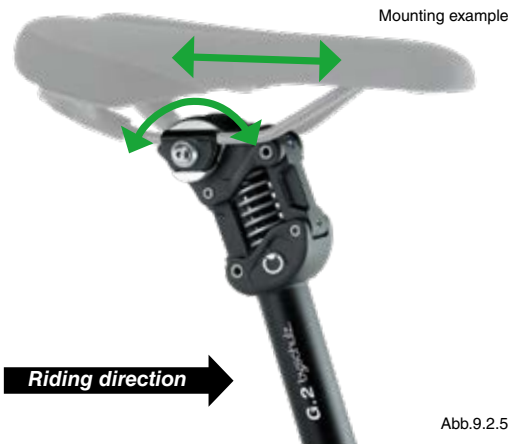

Abb.9.2.5
1. The saddle clamps and the head of the G.2 seatposts are equipped with a forged fine toothing. This allows you to individually adjust the desired saddle angle. You can also move the saddle rail lengthwise (Fig. 9.2.5). The saddle must not be clamped in the curved area, but only in the straight area of the rail!